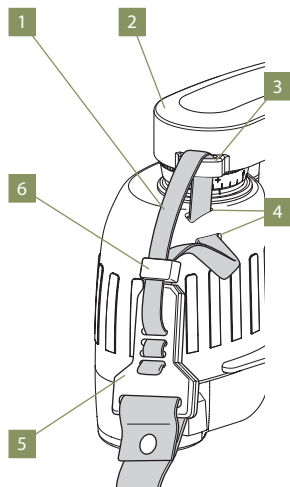

Fig. 8
5. Pull the carrying strap **1** out of the opening **4** on the underside of the binoculars (see Fig. 8).